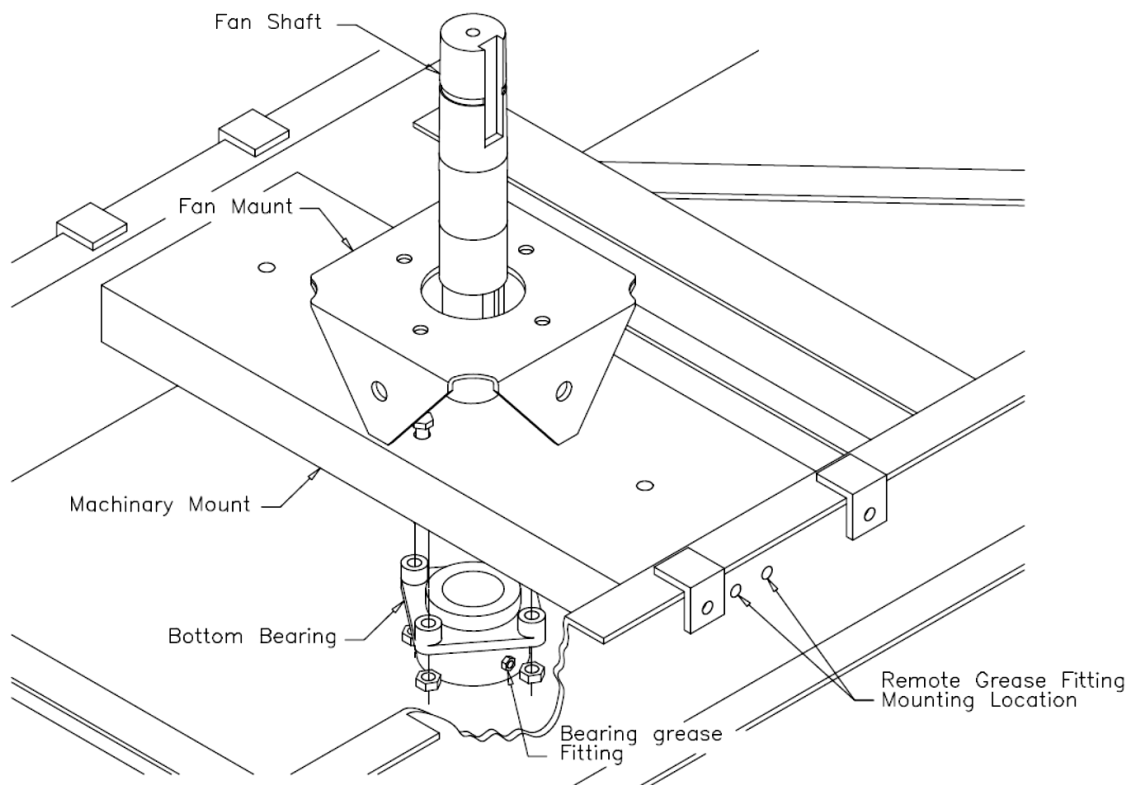

FIG.C1–BOTTOM BEARING AND FAN SHAFT
1. Attach bottom bearing, with grease connection facing the machinery mount side channel to which remote grease fittings will be installed. Install fan shaft, tapered end up, through the top of fan mount to the bottom bearing. Fan shaft shoulder should rest on bearing race. See Fig.C1.